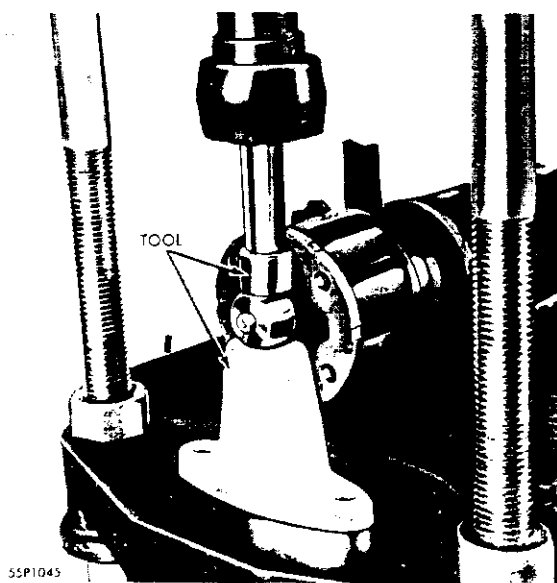

Fig. 8—Installing the Universal Joint Pin
(1) The trunnion pin must be centered in the propeller shaft. Use Tool C-3567 in a hydraulic press. Pin will be centered when ram contacts the spacer portion of Tool (Fig. 8).
(2) Install a thrust washer, rollers, ball, button spring and thrust button on each end of the trunnion pin and position the body over the pin assembly.
(3) Position the dust cover on the propeller shaft with the breather (polished jute) parallel to the shaft. Install and tighten the clamp.
(4) Position the dust cover on the joint body and install the clamp.
(5) Lubricate the universal joint with two ounces of fibrous universal joint lubricant applied evenly in both raceways, one-half back of the trunnion pin and one-half between the pin and cover.